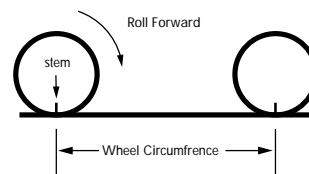

FIGURE 9
3. Roll the wheel one complete revolution until the valve stem is again at the 6:00 position. Read the tape directly under the valve and note the distance in millimeters. (To convert inches to millimeters, multiply inches by 25.4). Use this number to replace the default (default values are 2073 for wheel one, and 2134 for wheel two) when programming your Computer. (See figure 9).